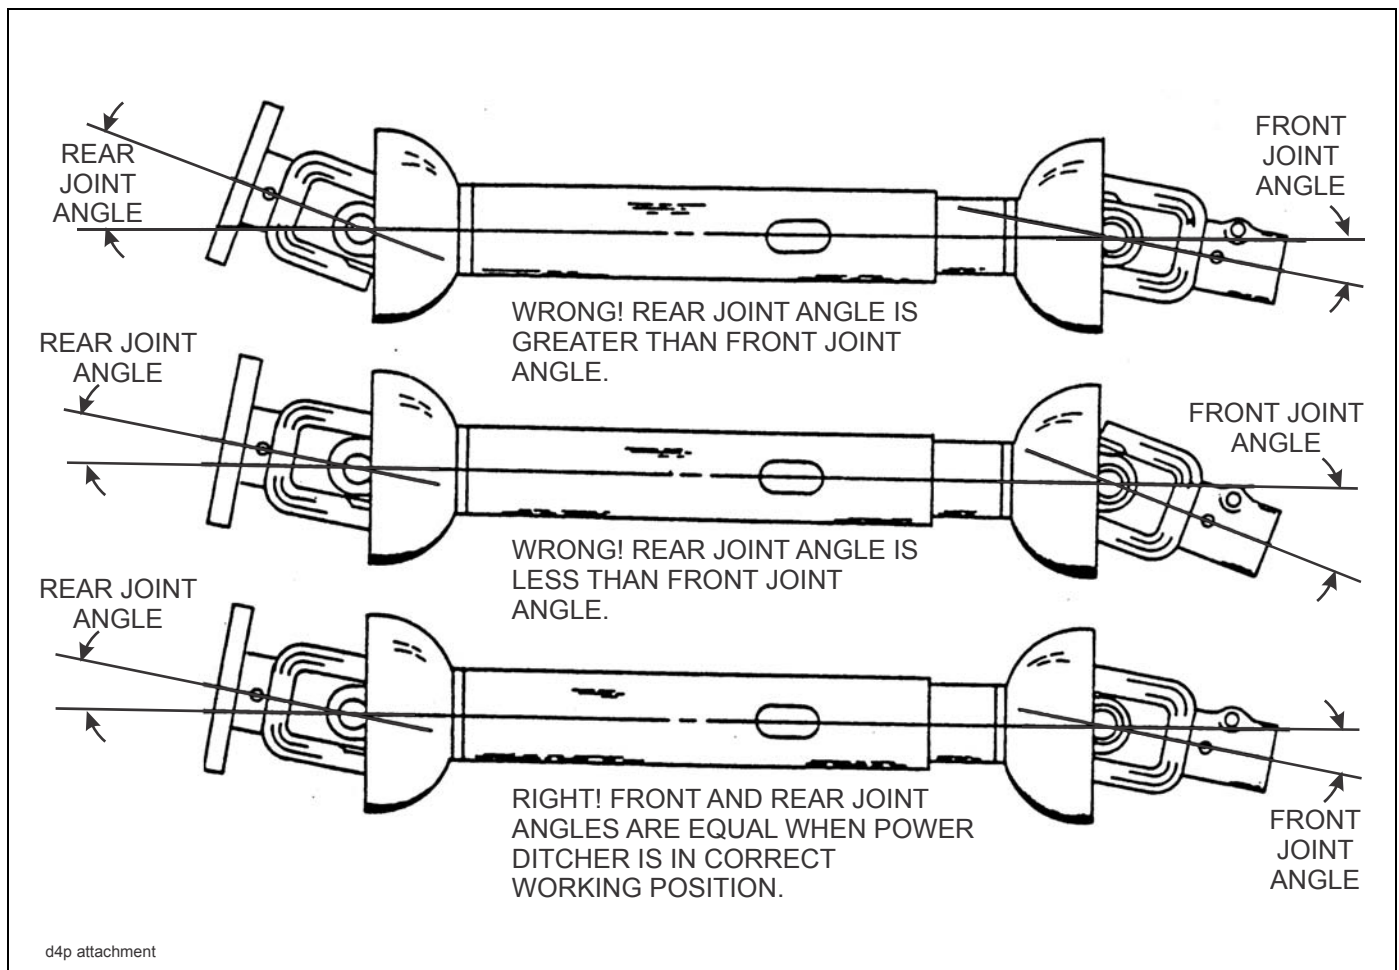

Figure 4-5: D4P Attachment to Tractor
3. The tractor's top lift link should be extended or retracted until the chain case is vertical when lowered to the normal operating position. The universal drive shaft must have an equal offset in each joint (**See Figure 4-5.**) As an example, if the front joint is offset 6 degrees the rear joint must also have a 6 degree offset. Should the rear joint be offset 4 degrees or 8 degrees the cutter head will not run at a constant speed and will vibrate excessively. Operating the ditcher in this condition will cause drive shaft, shear bolt and chain failures.